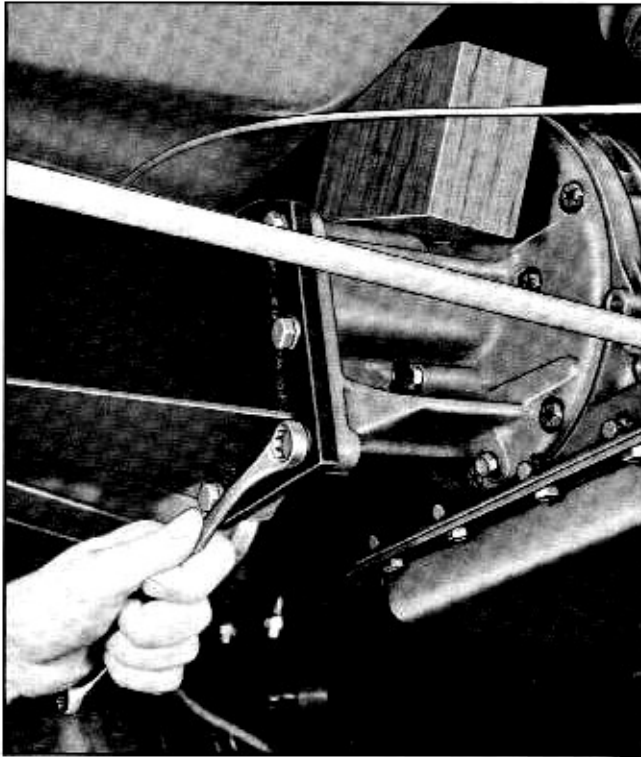

Fig. 4-19 Removing Bolts Connecting Torque Tube to Transmission
13. While supporting torque tube, remove six bolts connecting torque tube to transmission (Fig. 4-19).